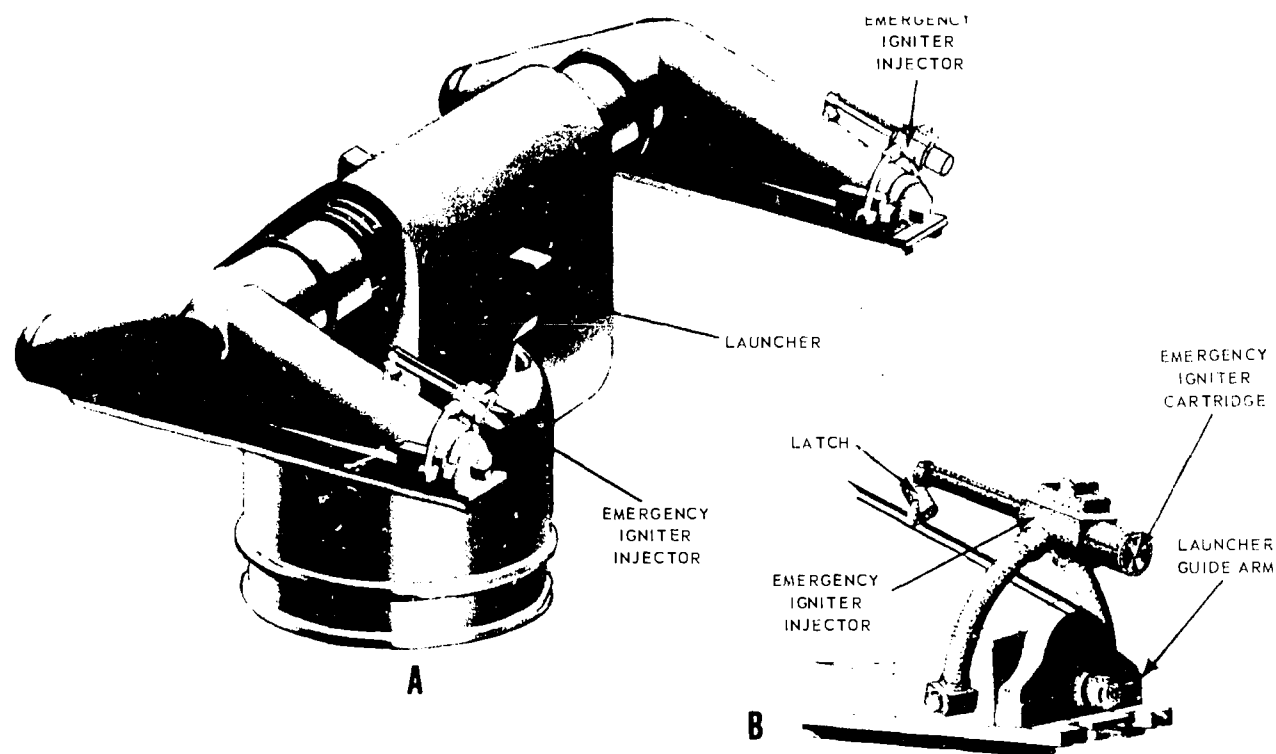

Figure 4-4.—Talos emergency igniter injector: A. Installed on launcher arm of Mk 7 system; B. Parts of the emergency igniter injector.
**EMERGENCY IGNITER.**—If the missile is not fired by emergency firing, the use of an emergency igniter injector may be ordered. It was designed for combat use to dispose of a mis-fired missile and booster, and to fire a missile tactically with the hope that it might be a successful shot. The emergency igniter injector has been placed on all Mk 12 Mods 0 and 1 launching systems; later mods will have them installed with the launchers. Mk 7 launching systems have been modified to include them; figure 4-4 A shows the igniter injector installed on each launcher arm, and figure 4-4B indicates the parts of the igniter injector. It is hydraulically operated and is remotely controlled through the launching system firing circuits. In its normally stowed position (fig. 4-4A), the injector is locked to the guide arm by a hydraulically operated latch (fig. 4-4B), out of the path